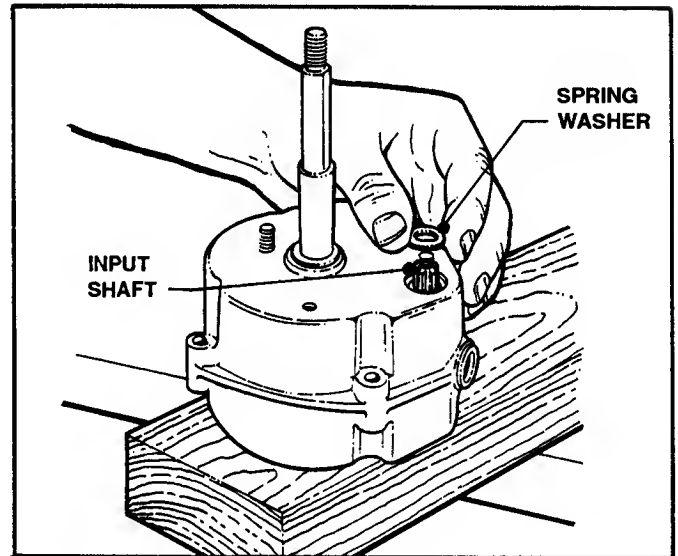

FIGURE 5.20
18. Place Spring Washer on Input Shaft. See Figure 5.20.